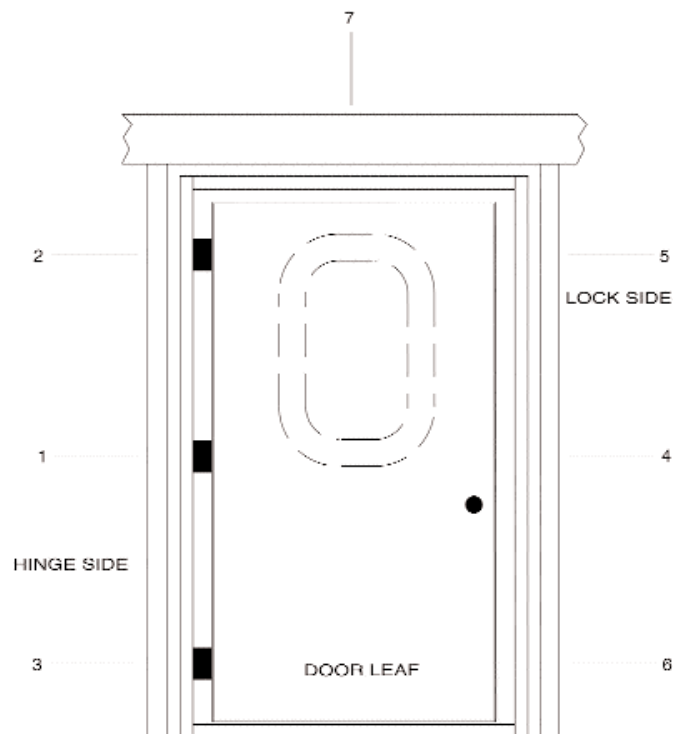

Figure 5
3. **Caution:** While holding the door frame flat against the exterior of the wall, fasteners should be installed in both jambs and at the head; install at the designated mounting locations making sure that you get at least a 1" penetration from the door jamb or head into the wall studs, see figure 5 for order of placement. **Note:** If scaffolding is used and interferes with the top of the door, it is acceptable to install this later when it is more accessible.